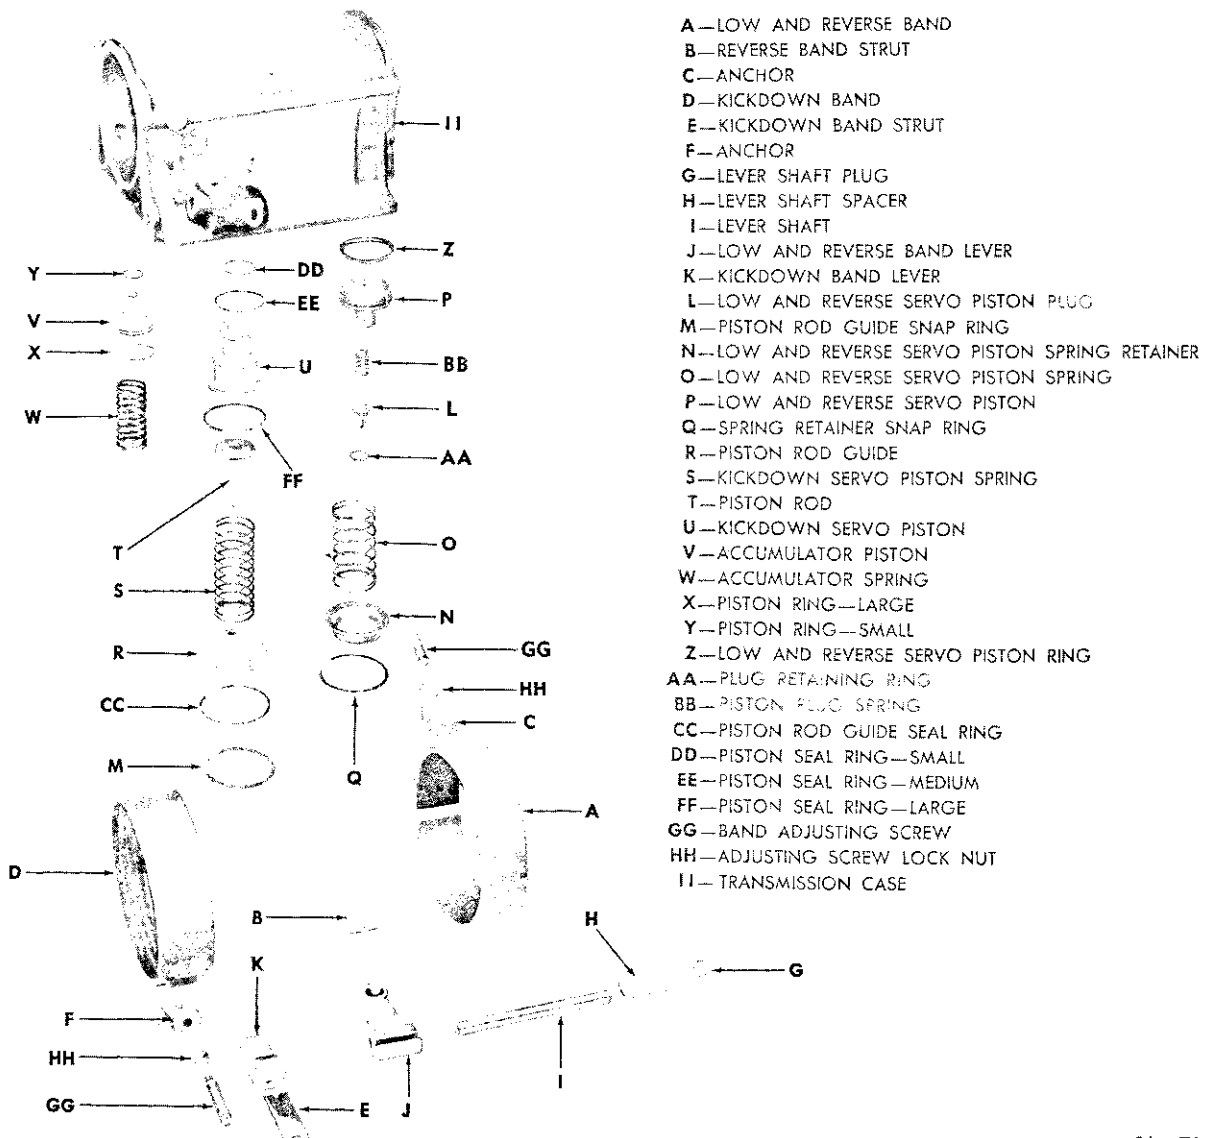

Fig. 76—Servos and Bands (Disassembled View)
All letters referred to in the inspection of these parts pertain to Figure 76. Make visual inspection of bands and lining for wear and bond to metal. If the lining is worn to the point that the grooves are no longer visible, band assemblies must be replaced. The lining is bonded to the band and no attempt should be made to reline them. Inspect bands for distortion or cracked ends. The reverse band is narrower than the kickdown band and the lining is of a different composition. Therefore, it should be identified to prevent improper installation.
80. LEVER ASSEMBLIES — INSPECTION (Fig. 76)
INSPECTION (Fig. 76)**
(Fig. 76)**
83. ACCUMULATOR PISTON AND SPRING — INSPECTION (Fig. 76)